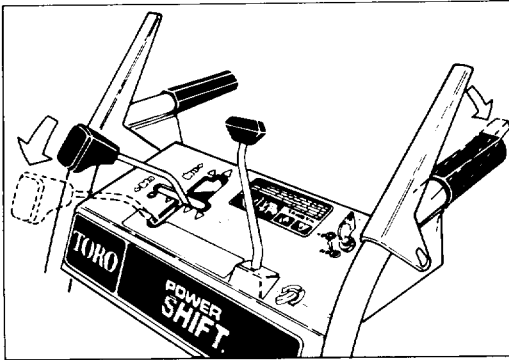

Figure 12
2. To move wheels to front or rear position, move shift control fully forward to Power Shift position and hold (Fig. 12).
3. Fully engage traction drive lever to move wheels into Power Shift position (Figs. 12 & 13).